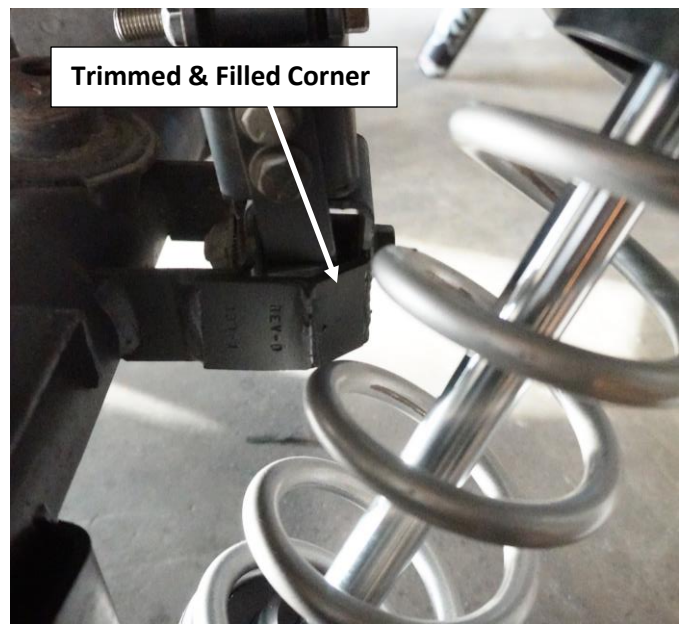

Fig 5. Trimmed factory rear track bar bracket.
16. Cycle the suspension straight up and down from full bump to full droop. Some track bar brackets hit larger shocks and need to be clearanced. At full droop check brake line length. See figure 5.